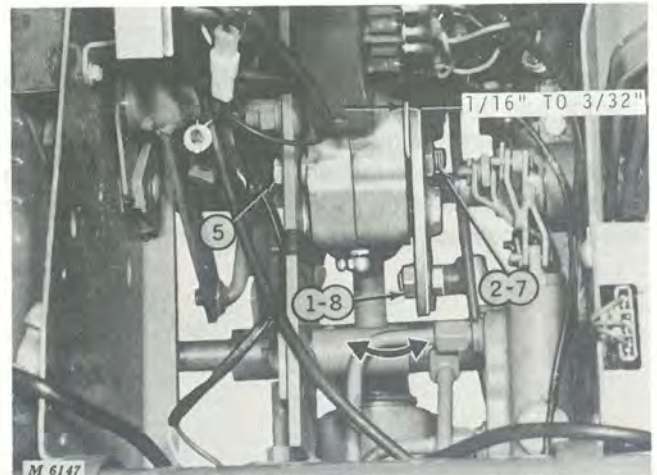

Fig. 23-Steering Gear (Viewed from Above Tractor)
5. Loosen jam nut on pivot bolt and tighten only the inside nut using a thin open end wrench, until all end play (see arrow) is removed or until the distance between the lever arm and steering gear housing is between 1/16 and 3/32-inch, Figure 23. Tighten jam nut.